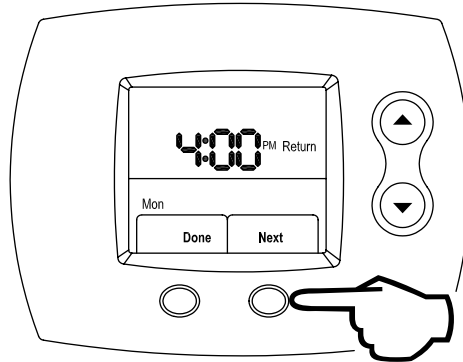

Figure 93
Step 19: Press the **RIGHT** (Next) button to lock in AM / PM. This is shown in Figure 93.